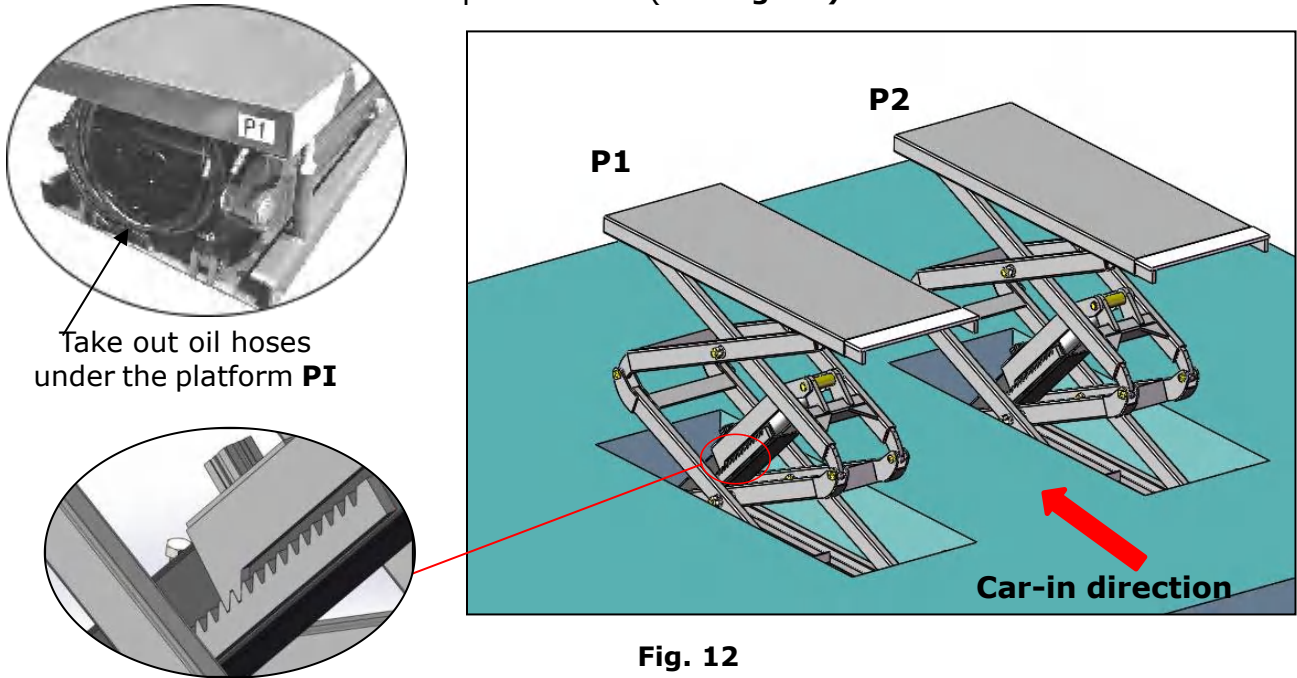

Fig. 12
1. Layout the equipment with forklift or other equipment to the location according to **Step B**. Lift the equipment up to about 1-meter-high and lock on the safety mechanism, take out oil hoses under the platform **PI**. (See Fig. 12)